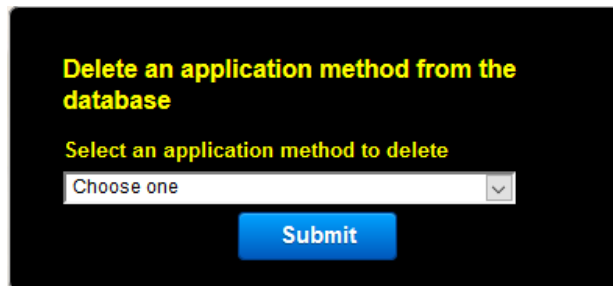

Fig. 23
1. This form allows you to delete an application method.(See fig. 23)